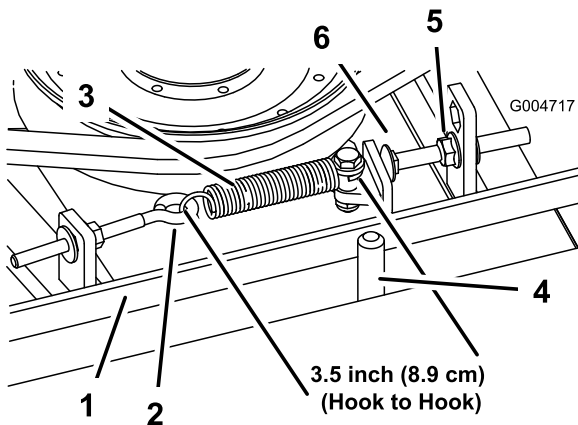

Figure 97
When properly tensioned, the extension spring (hook to hook) measurement should be approximately 8.9 cm \pm .63 cm (3.50 \pm .25 inch) (inside). Once the correct spring tension is attained, adjust the stop bolt (carriage bolt) until there is approximately .32 cm \pm .152/.000 cm (.125 \pm .060/-.000 inch) clearance between the head of the bolt and the idler arm (Figure 97).
Note: Make sure the belt is positioned on the spring side of the belt guide (Figure 97).
2. Loosen the eye bolt allowing the removal of the extension spring (Figure 97).
3. Loosen the flange nut securing the stop bolt to the mounting tab. Back off the nut enough to allow the idler arm to pass by the stop bolt (Figure 97). Move the idler pulley away from the belt to release belt tension.
8. Reconnect the extension spring (Figure 97) to the eye bolt and tension the belt as follows: